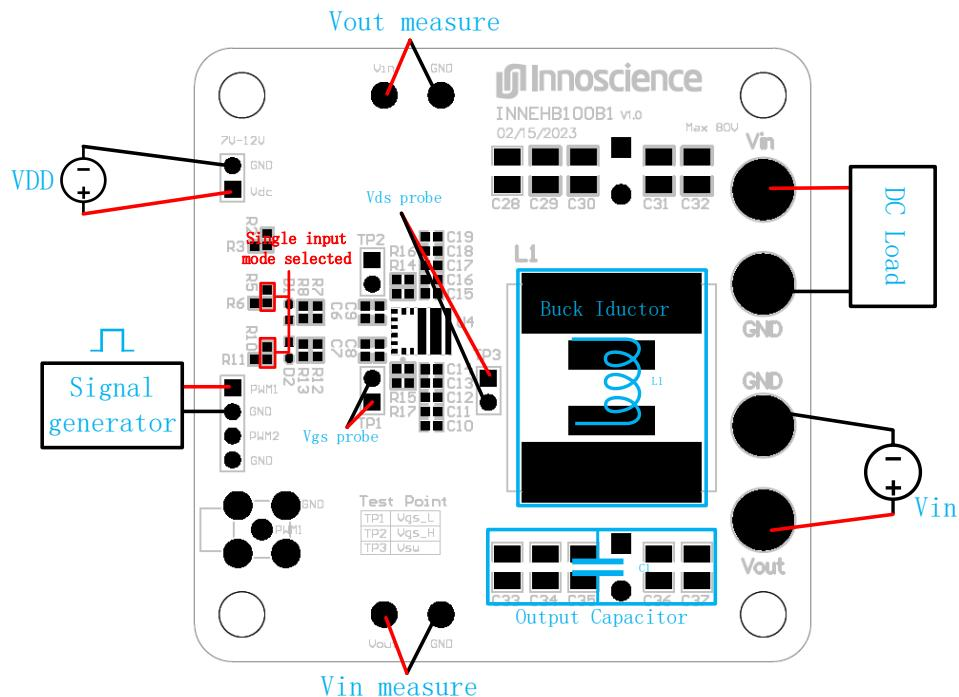

Figure 8 Single-PWM input Boost mode
2. Connect the DC voltage source to the **VOUT** terminal, as shown in Figure 8 (Pay attention to the polarity).